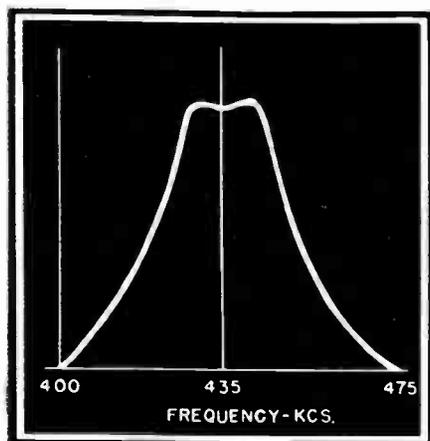

Fig. 1 A wavetraps rejects certain frequencies and allows others to pass with little attenuation.
**A** SIMPLE wavetraps consists of a coil and condenser in a parallel resonant circuit. In some traps the condenser is variable; in others, the inductance is variable. The circuit is designed to tune over a small range of frequencies. Figure 1 shows how the action of a wavetraps rejects certain frequencies and permits others to pass with little or no attenuation. This trap is designed to be resonant at about 435 kilocycles. This point is maximum impedance to this particular frequency. On both sides of this frequency, for about 35 kc, it also has large impedance to the incoming signal, but above 475 kc, and below 400 kc, the impedance is small enough to present only circuit resistance to the incoming signals. Thus an interfering signal appearing in the antenna has a great attenuation through the trap, while the
The signal to noise ratio is increased, often to a point where station signal has sufficient volume to "drown out" the interfering signal. Most wavetraps are enclosed in shielded cans that are similar to I.F. cans, and have screwdriver or knob adjustments on the top. Some are slug tuned. The wavetraps of Figure 1 can be compared to the primary or secondary of an I.F. transformer of 465 kc, in a sense.